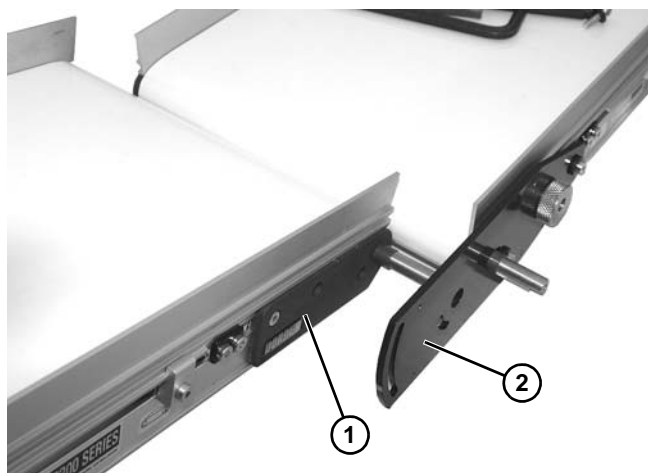

Figure 18
5. Install drive conveyor tension end (Figure 18, item 1) onto slave drive plate (Figure 18, item 2).